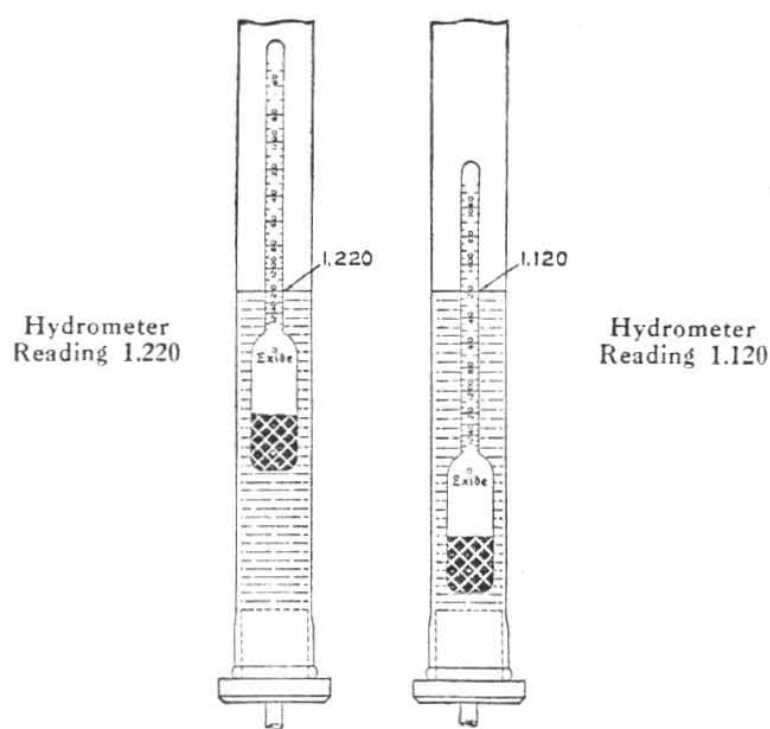

Fig. 22
b. The specific gravity is easily determined by allowing a hydrometer to float in the electrolyte. When the specific gravity is high, the hydrometer will not sink as far into the electrolyte as when the specific gravity is low. See Fig. 22.